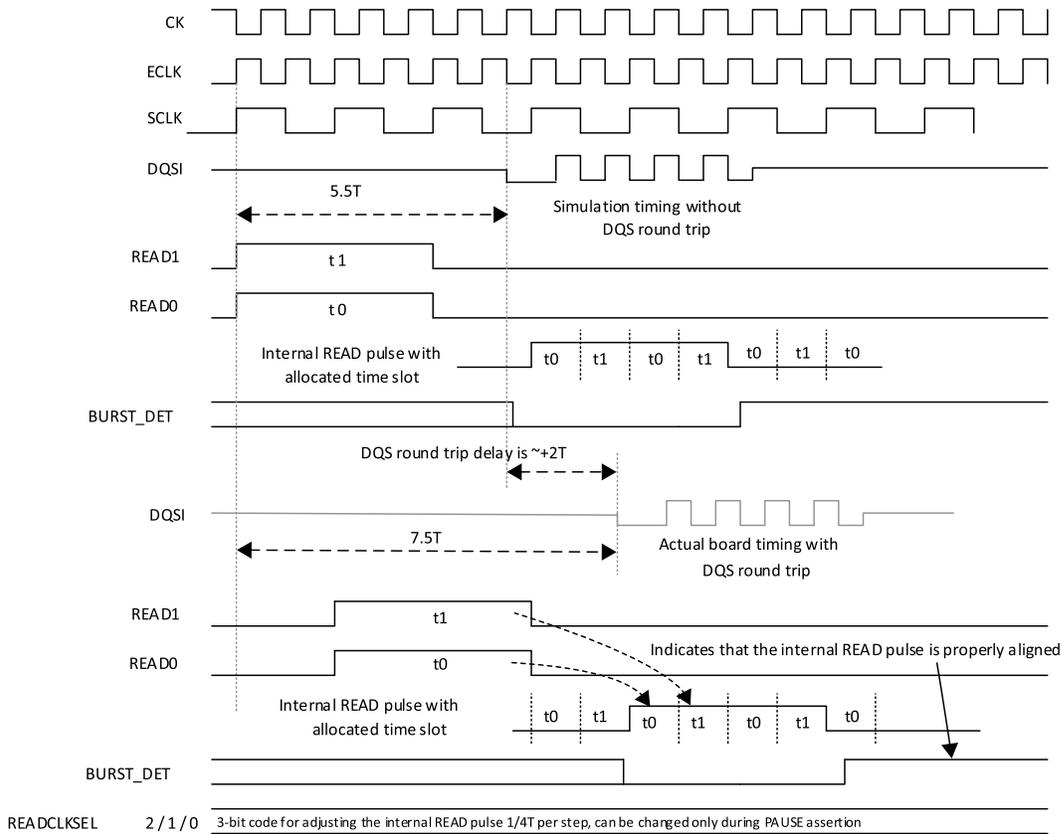

Figure 6.7. READ Signal Training Process
1. The memory controller sets READ1/0 to an initial position before starting the read pulse training. READ1/0 must be asserted for the number of SCLK cycles that is equal to one-fourth of the current read burst length as listed in Table 6.3. Each READ bit (READ1 or READ0) in the system clock domain is translated to a 1T time slot of the memory clock domain as shown in Figure 6.7.
3. To shift the READ pulse timing window, READ1/0 can be moved to the next cycle. If a READ bit is asserted in the next cycle while the other READ bit remains in the current cycle, only the corresponding time slot on the READ pulse moves to the next allotted slot. Therefore, only READ0 must be moved to the next cycle if the READ pulse needs to be shifted only by 1T. However, if only READ1 is moved to the next SCLK cycle, then the READ pulse gets two short pulses in wrong timing. Since READCLKSEL2/1/0 covers a whole 2T timing, it is recommended that both READ1 and READ0 be moved to the next cycle together to shift the READ pulse to the next 2T window as the example shown in Figure 6.7.
Figure 6.7 shows an example of a burst length 8 (BL8) read operation. The bottom side of the diagram indicates the case that the incoming DQS (DQSI) gets slightly more than 2T delay after a round trip. Due to this round trip delay, both READ1 and READ0 need to be shifted to the next SCLK cycle so that the internal READ pulse gets a 2T shift. Then, the READCLKSEL2/1/0 signals can be used to fine-tune the READ signal position throughout the training process. When any of READCLKSEL2/1/0 is changed at any time after a system reset, the PAUSE input to DQSBUFM must be asserted before 4T of the change and remain asserted for another 4T after the change to avoid glitches and malfunction.